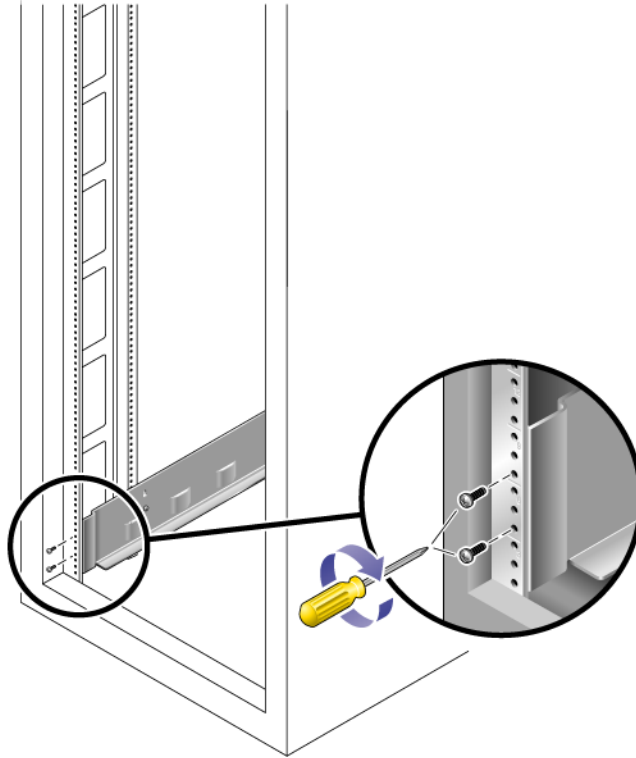

FIGURE 2-23 Securing the Rail to the Front of the Cabinet
5. Use the #2 Phillips screwdriver to insert and tighten two 8-32 screws to secure the rail to the front of the cabinet (FIGURE 2-23).